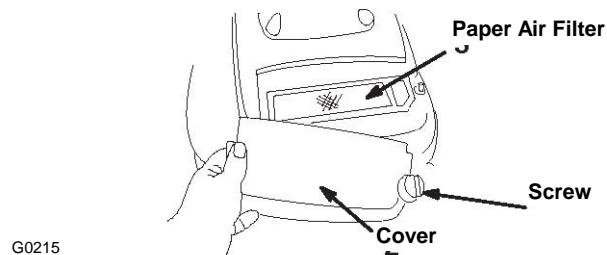

Figure 21
3. Remove the screw that secures the air cleaner cover (Fig 21.)
4. Remove the cover and clean it thoroughly (Fig 21).
6. Remove the foam pre-cleaner and wash it with a mild detergent and water, then blot it dry (Fig 21).